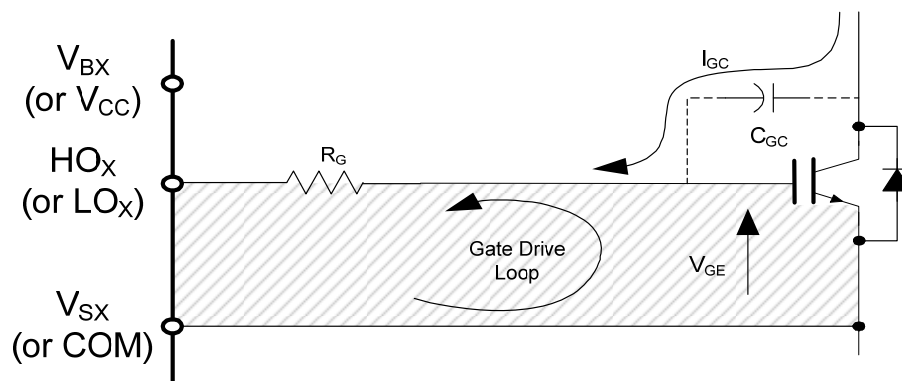

Figure 34: Antenna Loops
**Gate Drive Loops:** Current loops behave like antennas and are able to receive and transmit EM noise (see Figure 34). In order to reduce the EM coupling and improve the power switch turn on/off performance, the gate drive loops must be reduced as much as possible. Moreover, current can be injected inside the gate drive loop via the IGBT collector-to-gate parasitic capacitance. The parasitic auto-inductance of the gate loop contributes to developing a voltage across the gate-emitter, thus increasing the possibility of a self turn-on effect.